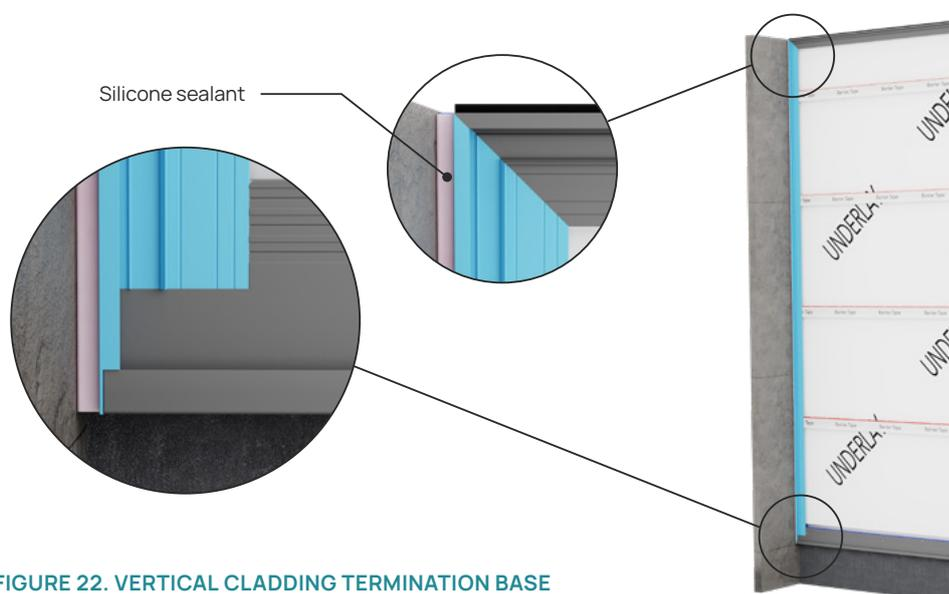

FIGURE 22. VERTICAL CLADDING TERMINATION BASE FLASHING INSTALLATION
1. Trim the Termination Base Flashing (NC247T) to extend from the base channel to the top of the wall. The Base Channel (NC134P) will need to be notched to allow the flush fitting of the Termination Base Flashing (NC247T). The termination Base Flashing (NC247T) should terminate against the base channel front up-stand. – See figure 22.